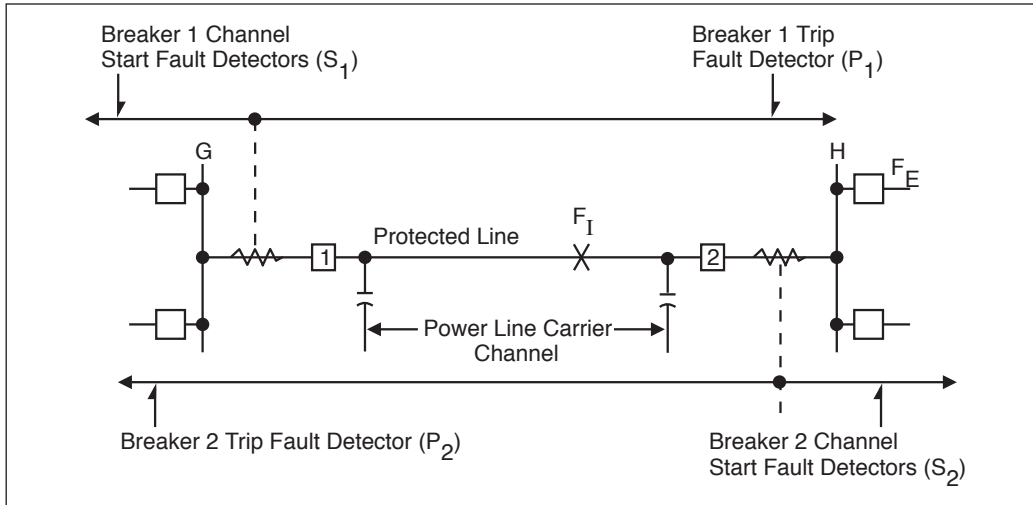
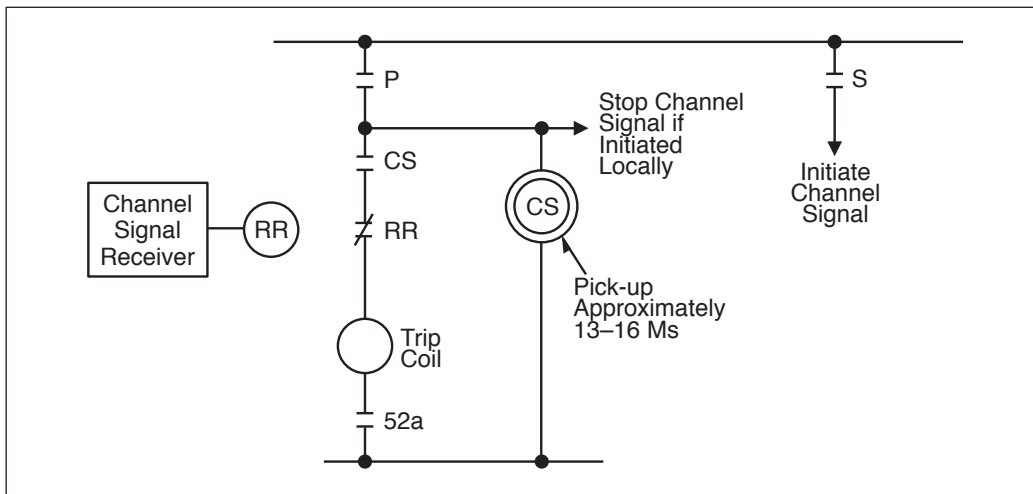

Figure 2-1a. – Basic Elements for directional-comparison blocking systems.
Figure 2-1b. – Contact Logic (per Terminal).
The basic elements for directional-comparison blocking systems are shown in Figure 2-1a and Figure 2-1b. At each terminal, the phase and ground trip units (P) must be directional and set to overreach the remote terminal; that is, they must be set to operate for all internal faults. Nominal settings of the distance units are 120 to 150 percent of the line. The start units (S) must reach farther, or be set more sensitively, than the remote trip units. Thus S1 must be set more sensitively than P2 or reach farther behind bus G. Likewise, S2 must be set more sensitively than P1 or reach farther behind bus H. In any case, the S and P relays should be similar in type. If the trip unit (P) is a directional overcurrent ground relay, the start (S) ground relay should be a similar non-directional overcurrent unit. The same principle applies for the phase relays.
Operation of the directional-comparison scheme (shown in Figure 2-1a and Figure 2-1b) is internal faults. Subscript 1 indicates relays at station G for breaker 1; subscript 2, relays at
station H for breaker 2. (Figure 2-1c shows a solid-state logic version of Figure 2-1b.)